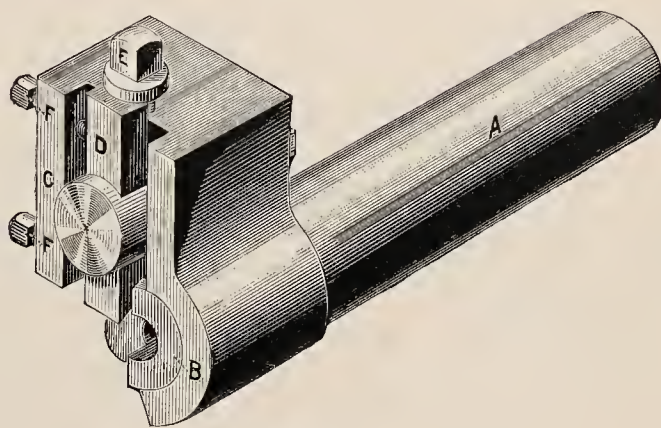
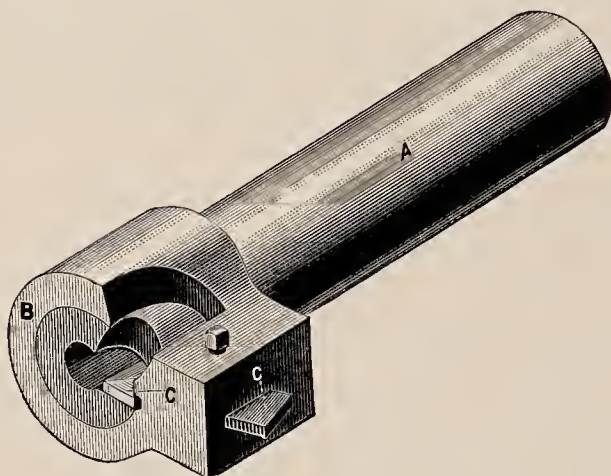
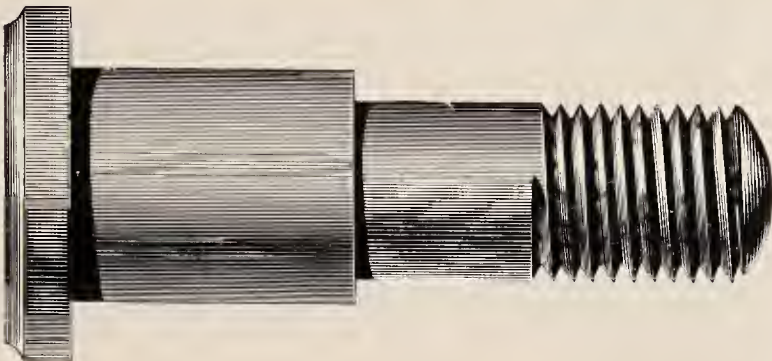

FIG. 6. TURNER.
FIG. 7. SIZER.
FIG. 25.
THE TURNER, shown in Fig. 6, is a very peculiar tool. It consists of hollow shank A fitting the turret; a hardened bushing B held in its front end by a set-screw; a heavy, mortised bolt C in the front lug of the shank; an end-cutting tool D, shaped like a carpenter's mortising chisel, and clamped by
THE SIZER, shown in Fig. 7, consists of a hollow shank A fitting the turret and carrying in its front end a hardened bushing B and a flat tool C.
**BOX TOOL.**—A box tool is a turret shank arranged to hold a series of cutters so as to produce work of several sizes, shoulders and shapes. Box tools are used only on special manufacturing work, and its construction will readily suggest itself when occasion requires. Fig. 25, on page 49, shows a wrist pin with three sizes. Such a thing, if needed in quantities, would justify the use of a box tool. For ordinary work several sizes are produced by using several separate turret tools like the sizer shown in Fig. 7, the heaviest cut being made by the turner shown in Fig. 6. There is hardly a limit to variety of cutting-tools which may be set in the turret to do the different parts of the work on a piece. Fancy end shapes, etc., as well as different effects on large, flat jobs, all come within the range of the turret operations.